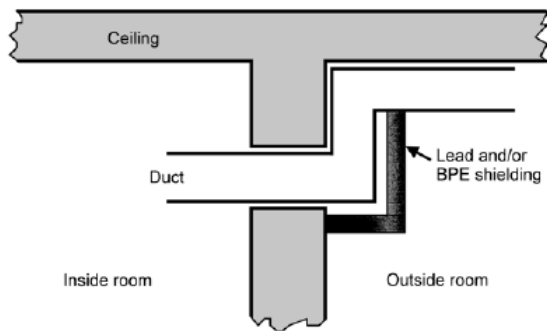

Fig. 4.2. Bend in duct to avoid radiation streaming.
The ducts may exit the room at an angle to the wall to maintain this short path or they may be staggered through the wall (Fig. 4.2).
- (1) bend the ducts immediately after they have exited the maze (Figure 4.2).